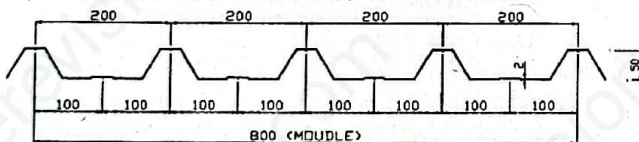

Figure 11
46. The drawing below Figure 11 refers to: